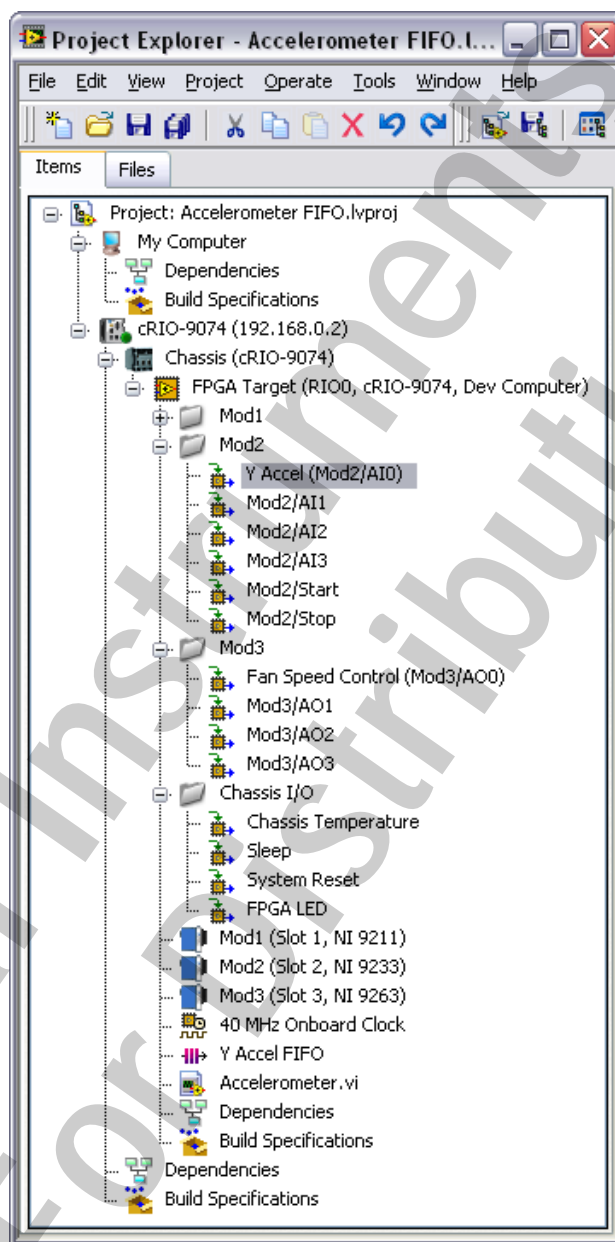

Figure 6-3. Accelerometer FIFO Project
- ❑ Click **OK**. The project should now resemble Figure 6-3.